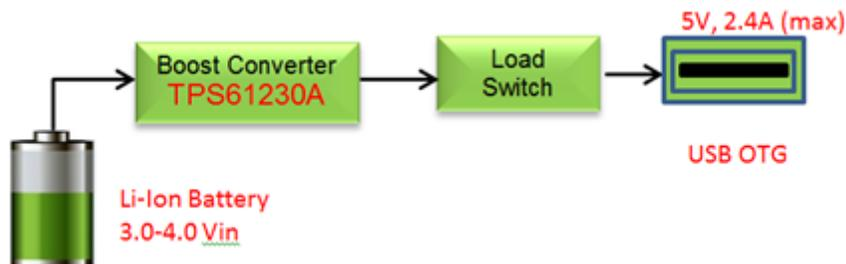

Figure 2. Block Diagram for USB OTG Vbus Power Supply
With data speeds increasing, the USB Implementers Forum has updated the power specification several times, announcing the newest USB Power Delivery (PD) specification for USB OTG devices in 2016. In this USB PD specification, the maximum current at 5V is 3A. TI's high efficiency step-up converter, the TPS61230A, can cover most applications for this specification. For most portable devices, package size and thermal performance are critical because of the limited space inside smartphones. The TPS61230A achieves a good balance between size and performance (efficiency, thermal), and meets the maximum 5V/2.4A power demand of USB PD from the Li-ion battery, as shown in Figure 2.